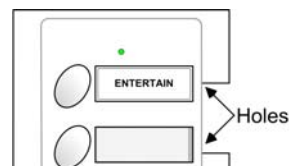

Figure 9. Lens Release Locations
Step 10: Label the Scene Switch Buttons. Remove the lenses beside each button by inserting a small tool, such as a paper clip, into the holes on the side of the bezel. Refer to Figure 9. After the lenses have been removed, place the scene switch labels. Replace the lenses.